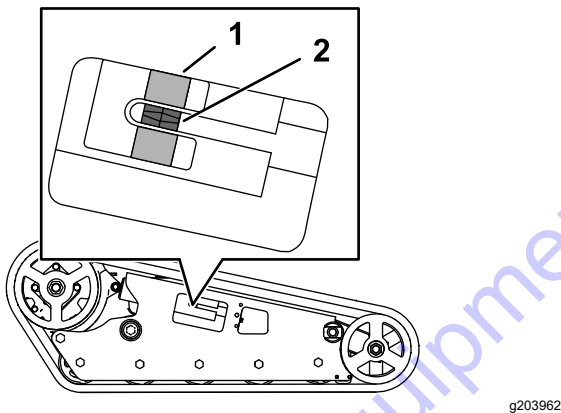

**Figure 59**
- Remove the locking bolt, spacer, and nut (Figure 59).
- Align the closest notch in the tension screw to the locking-bolt hole and secure the screw with the locking bolt and nut (Figure 59).
4. Remove the locking bolt and nut (Figure 59).
5. Using a 1/2-inch drive ratchet, release the drive tension by turning the tensioning screw clockwise (Figure 59 and Figure 65).